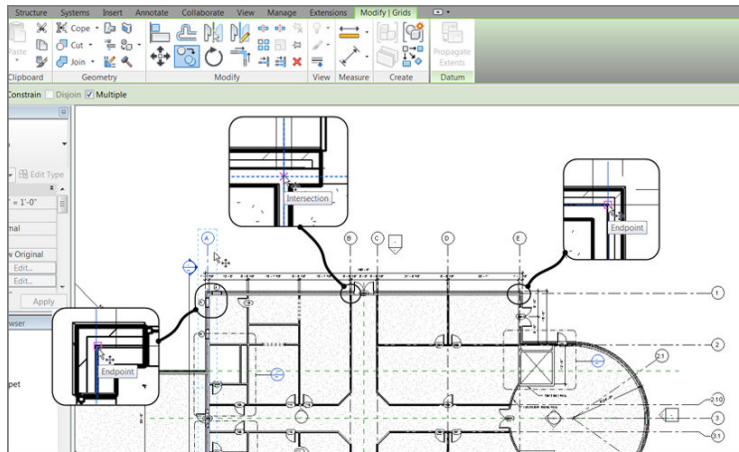

FIGURE 8.17: Copying the grid line to the other walls
2. On the Modify | Grids tab, click the Copy button, as shown at the top of Figure 8.17.
3. On the Options bar, make sure the Multiple check box is selected, as shown at upper left in Figure 8.17.
4. Pick a base point along the grid line within the wall (see Figure 8.17).
5. Copy grid A to the wall centerlines (see Figure 8.17). The grid lines auto-sequence as you go.